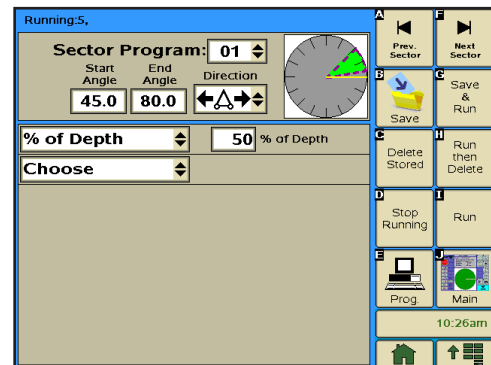

Figure 106-2
4. Enter the commands for this sector. Refer to Figure 106-2.